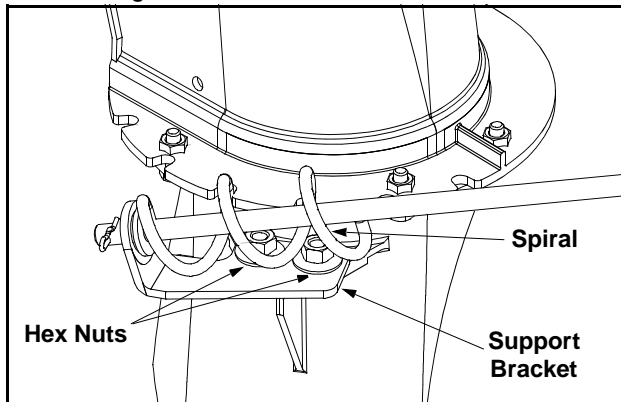

Figure 14
1. Loosen, but do NOT remove the two hex nuts which secure the chute directional control support bracket to the snow thrower housing. See Figure 14.